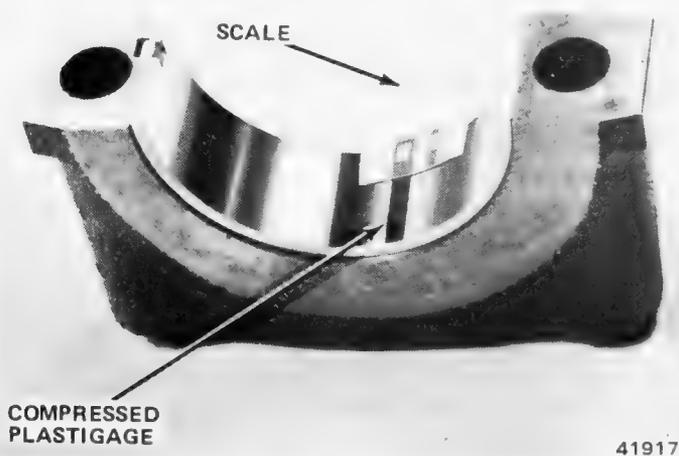

Fig. 1B-172 Checking Main Bearing Clearance with Plastigage
- (6) Remove bearing cap and determine amount of clearance by measuring width of compressed Plastigage with scale on Plastigage envelope. Correct clearance is 0.0017 to 0.0020 inch on No. 1 through No. 4 main bearings and 0.0025 to 0.003 inch for the rear main bearing (fig. 1B-172).